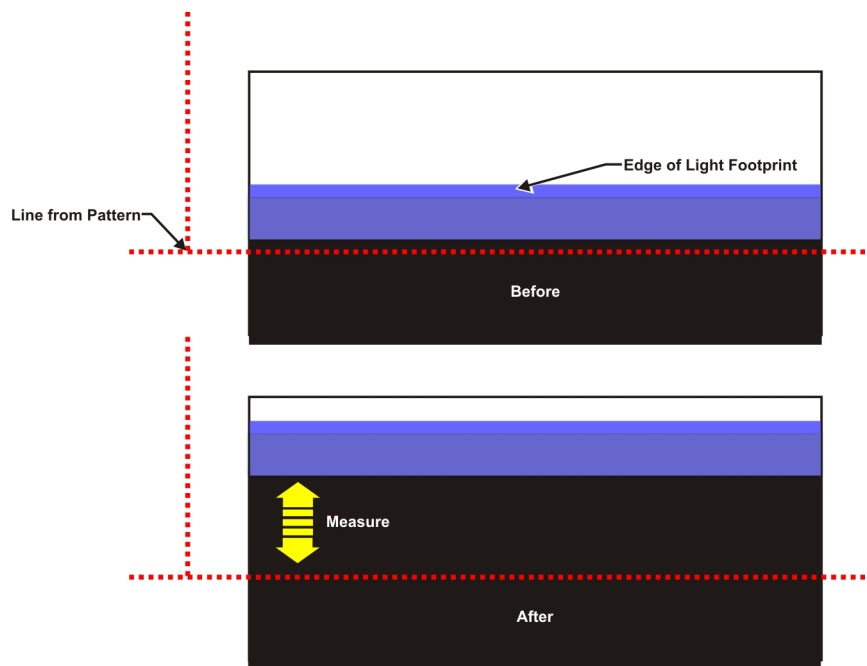

Figure B-1 Measuring Overfill
3. Use a ruler to measure how many centimeters the light beam moved (measure the distance from where the line was in Step 1 to where the line is in Step 2). See **Figure B-1**. This measurement indicates how many centimeters the light moves with every 1/4" turn.